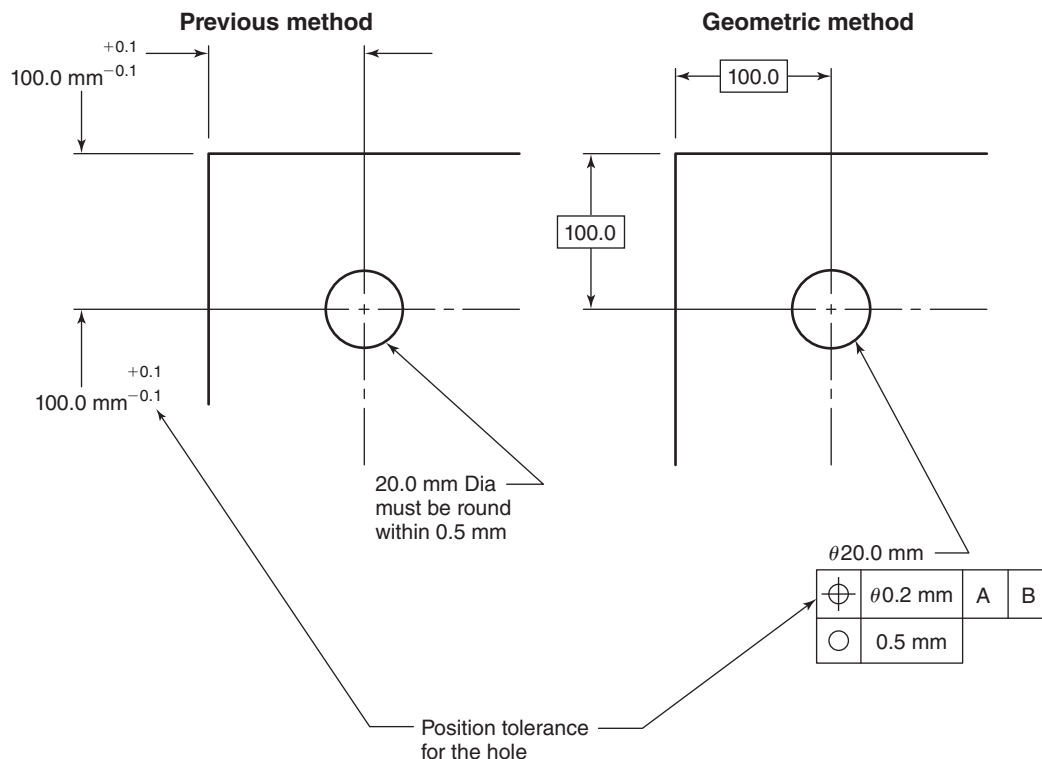

Figure 4-1 Geometric compared to standard dimensioning methods.
4.1.1 Symbolic Language Let's compare the two different systems: GDT and standard dimensioning and tolerancing. In Fig. 4-1, the location and tolerance for a hole is shown using examples of both. A second specification controls the roundness of the hole to 0.5 mm (the circle in the second box). It may seem that the GDT callouts only restate in symbols that which was always there. Not so. Each and every geometric symbol was created to solve an unmet need or to expand some capability not found in standard dimensioning and tolerancing.
However, symbols clear up drawing information only when the print reader studies their meaning. For example, the boxes around the 100-mm dimensions in Fig. 4-1 have a definite meaning and purpose—we'll discover it later.
A desired *characteristic* is called out. For example, the hole in Fig. 4-1 is to be round.